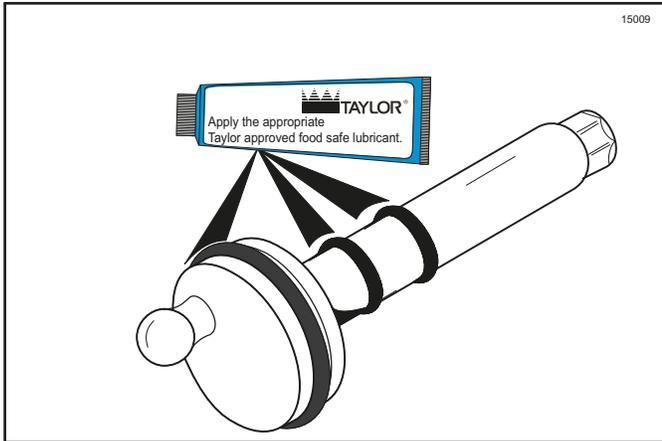

Figure 6-25
- Slide the large black O-ring and the two smaller black O-rings into the grooves on the driveshaft. Thoroughly lubricate the O-rings and shaft. (See Figure 6-25.) **Do not** lubricate the hex end of the shaft.